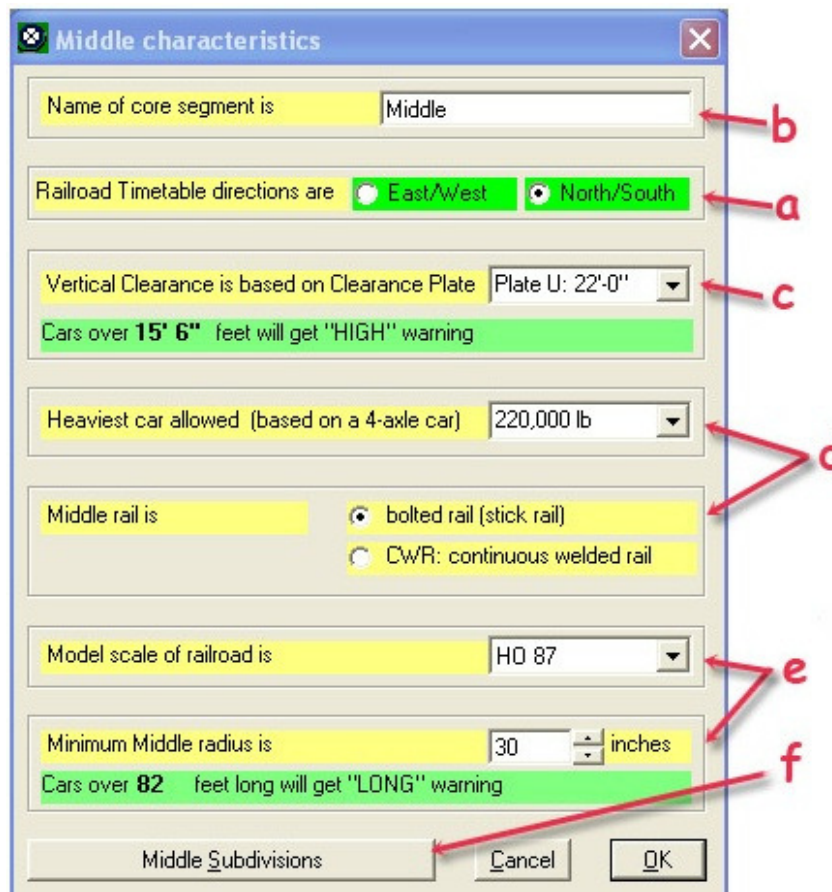

Figure 1-8
1. On the ProTrak toolbar, click on "Administration" then select "Core Segment Notes" (note that this may also show as "Middle Notes") from the dropdown list. The window shown in Figure 1-8 allows you set up some more of the 'tombstone' data for the railroad.